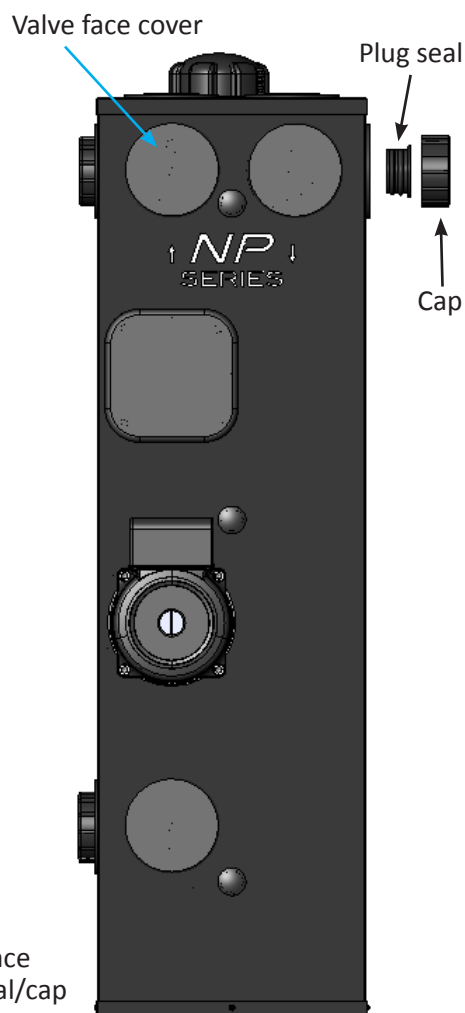

Figure 21: Valve face cover and plug seal/cap
6. Replace valve face covers and plug seals (Figure 21). Be sure to lubricate the O-rings on the plug seals to allow for easier removal during future service.
16. Replace valve face covers and plug seals as shown in Figure 21. Be sure to lubricate the O-rings on the plug seals to allow for easier removal during future service.